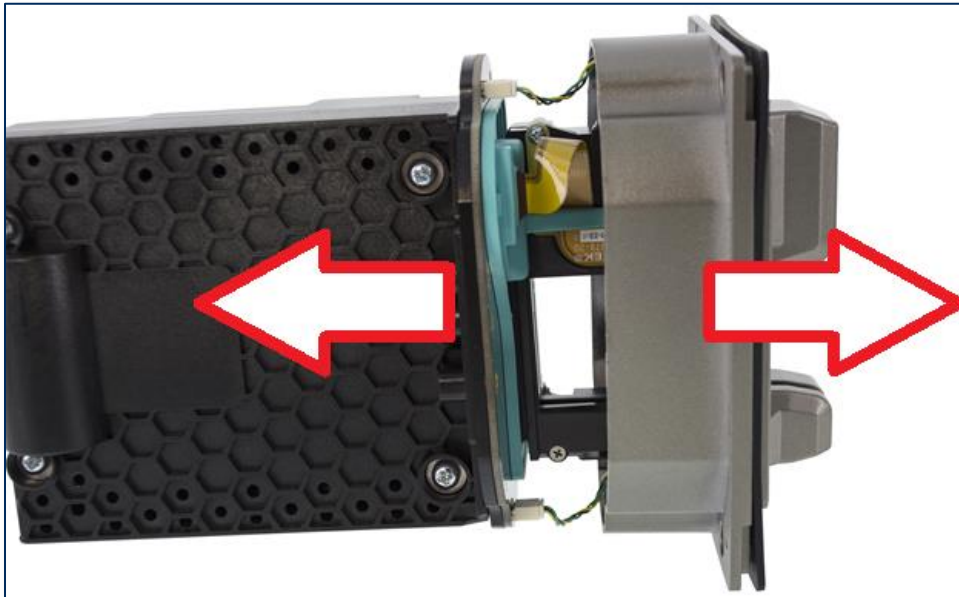

Figure 7-2 - Separating Bezel from Body
- 3) Separate the bezel from the body, as shown in **Figure 7-2**. This triggers the device's tamper mechanism and erases all secure information, including keys.